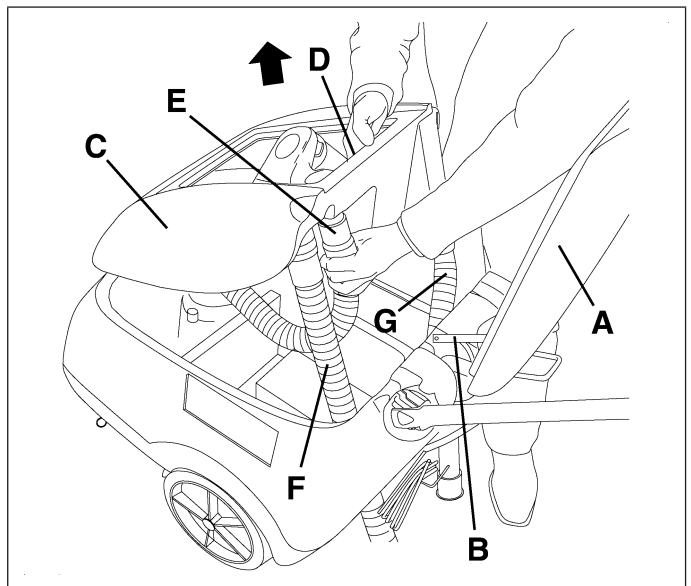

Figure 9
7. Open the cover (A, Fig. 9) and apply the cover stand (B).
8. Grasp the recovery tank (C, Fig. 9) in the area (D) and lift it, as shown in the figure, then disconnect the vacuum hose (E) from the tank and remove the tank (C) together with hoses (F) and (G).
10. Reinstall the tank (C, Fig. 9) by carrying out steps 5 to 9 in the reverse order.